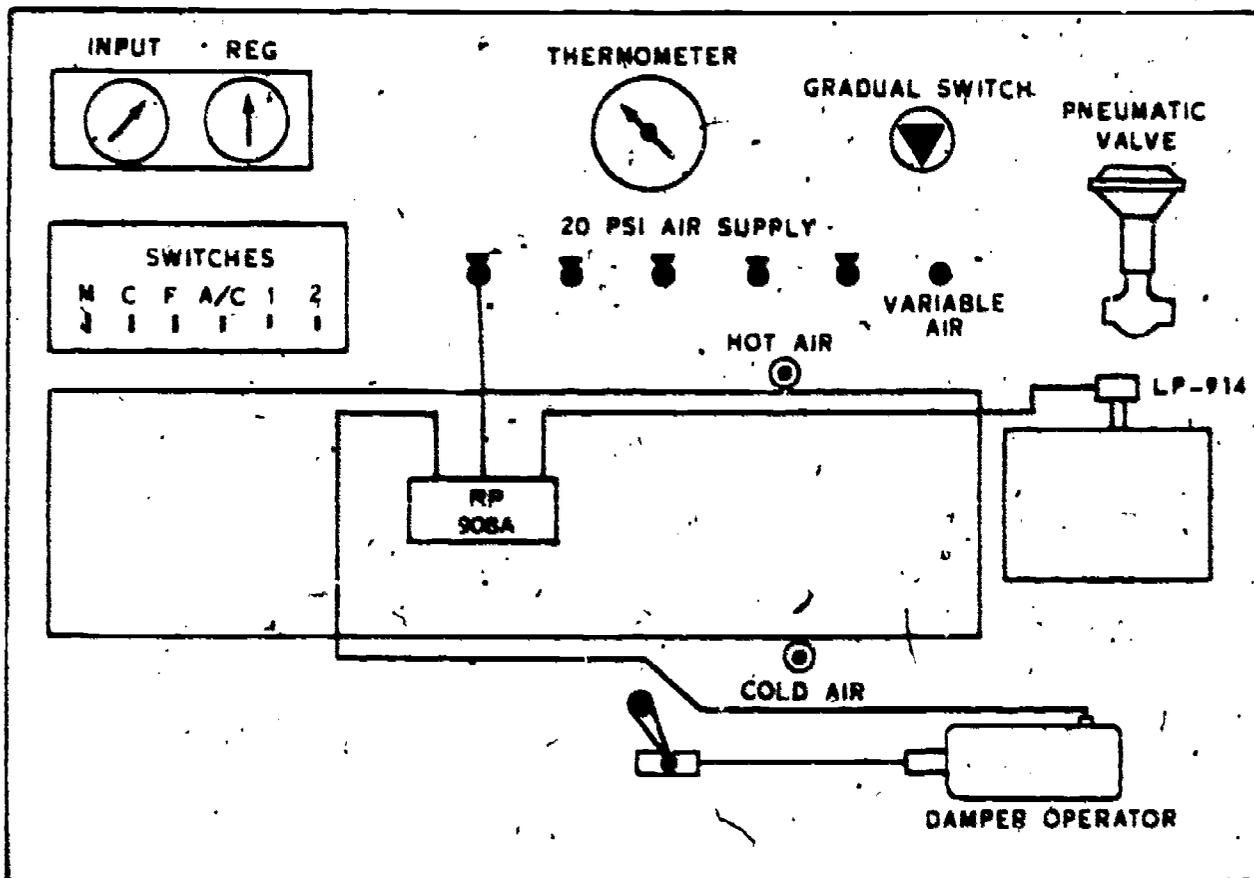

Figure 8. 297
3. Connect the control loop as shown in figure 8.